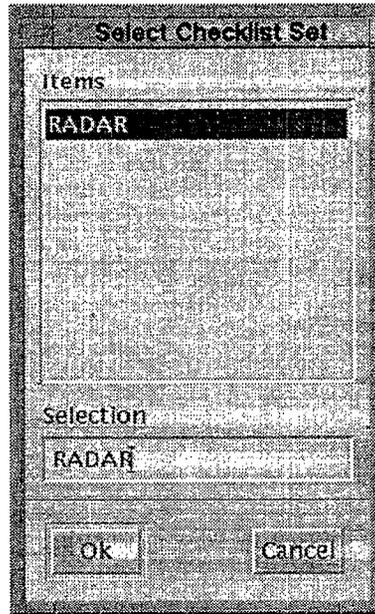

Fig. 39 — List of checklist sets (only radar is valid)
- Select *Radar* (the only valid set) from the list (Fig. 39).